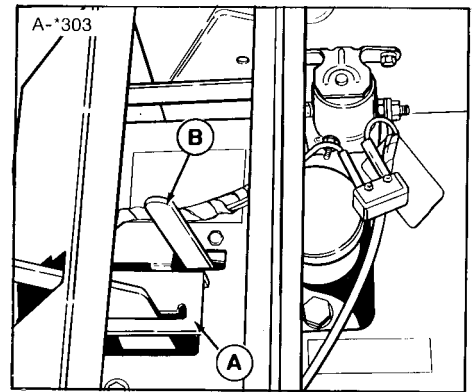

Figure 29. Control Lever Quadrant
5. Raise the seatdeck. The control lever quadrant (figure 29) is mounted with slotted holes so it can be adjusted. Loosen the two self-tapping screws and move the quadrant so the lever moves to correct position. Then tighten the two screws.
3. Place the transmission engagement lever (B, figure 29) in forward position (disengaged position).